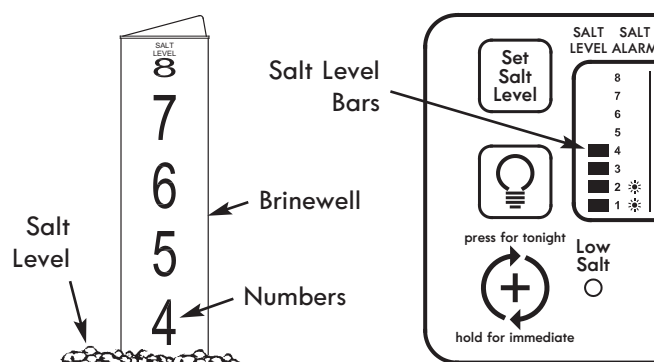

Figure 23
2. The salt level scale, on the brinewell inside the tank, has numbers from 0 to 8 (see Fig. 23). Observe the highest number the leveled salt is at, or closest to.
3. Press the SET SALT LEVEL button as many times as necessary to make the salt level bars in the display (see Fig. 23) match the number on the brinewell. At level 2 or below, the “Low Salt” indicator will flash.